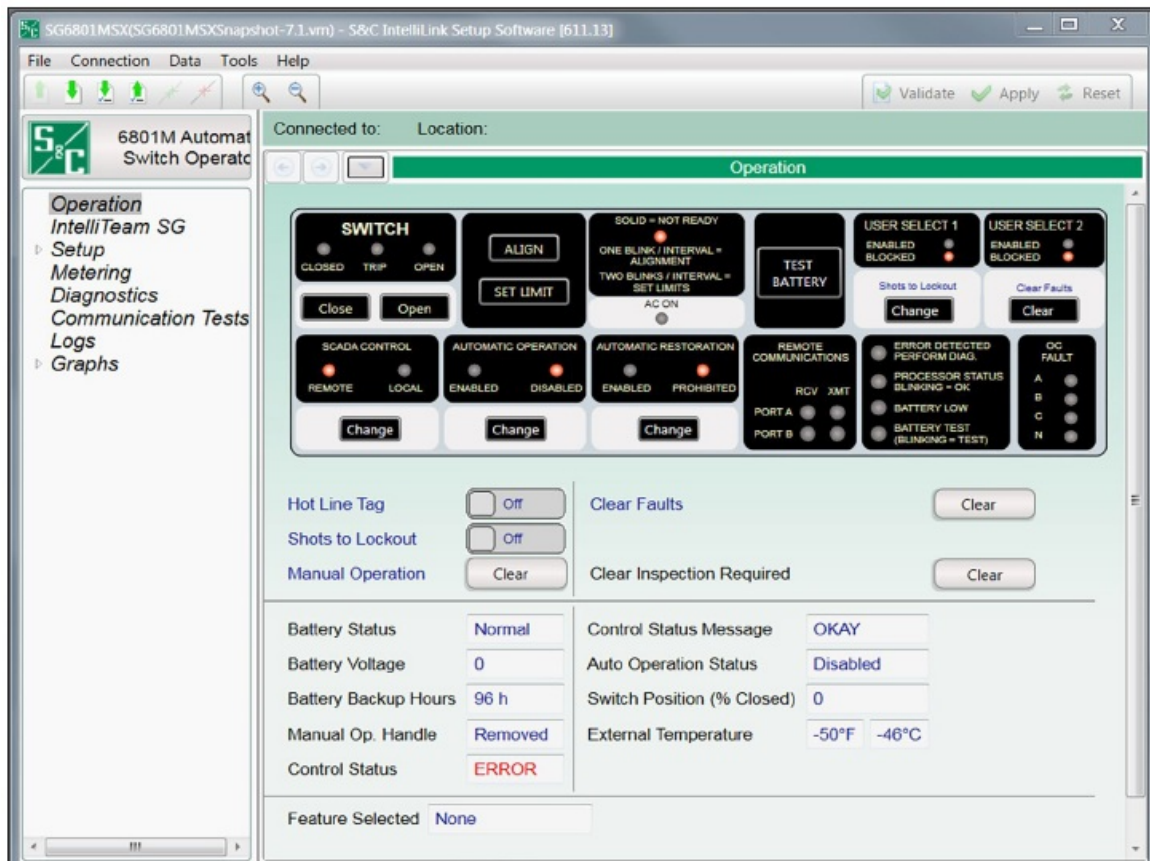

Figure 10. The 6801M Automatic Switch Operator Operation screen.
- **STEP 8.** When the login has been completed, the Operation screen opens. See Figure 10.